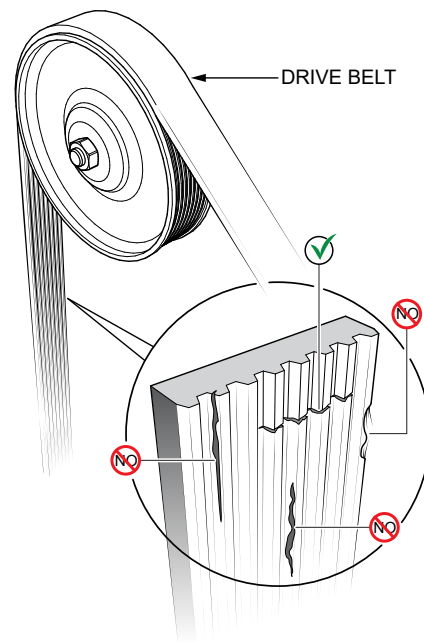

Figure 132. Drive Belt Inspection
1. Inspect the **drive belt** (Figure 132) for damage and wear. Horizontal cracks (across the belt) are acceptable. Vertical cracks (direction of belt ribs) that intersect with horizontal cracks are not acceptable.